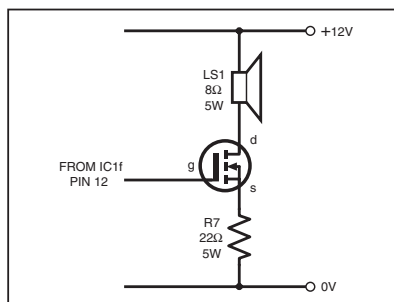

Fig.2. Adding a simple MOSFET amplifier stage.
Switch S1 may be replaced with a tilt switch or a lever-operated microswitch for various applications. Inset diagram Fig.2 shows how the sound may be amplified to a level that should be hard to ignore. Note that since the circuit is carefully balanced, only the HEF40106BP (Philips) should be used for IC1, and the supply voltage and component values should not at first be altered.
**A** DESIRE to listen to music late at night, and a hi-fi amplifier with no headphone output, prompted the design of the Headphone Amplifier circuit shown in Fig.2. It is intended to deliver 100mW into 32 ohms when driven by line-level signals (1V peak); this allows musical peaks, and dips in the headphone impedance, to be handled without clipping, but most headphones will produce adequate volume levels with a few milliwatts. The circuit diagram shows a single audio channel, components marked with an asterisk (\*) are duplicated for the second channel.